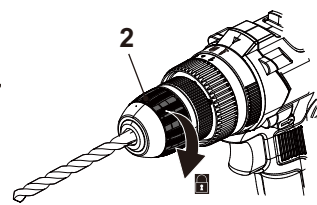

Fig. 3
3. Turn the chuck sleeve (2) clockwise until the drill bit is properly fastened in the chuck jaws (1) (Fig. 3).